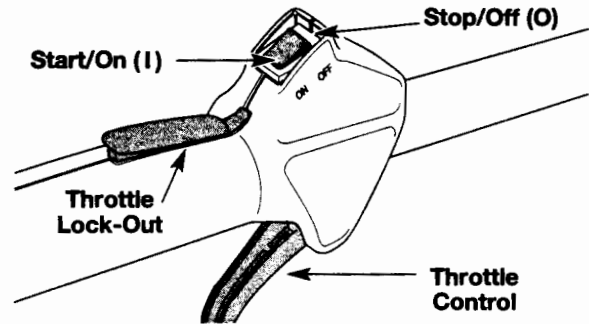

Fig. 16
2. Put the On/Off Stop Control in the OFF (O) position (Fig. 16).